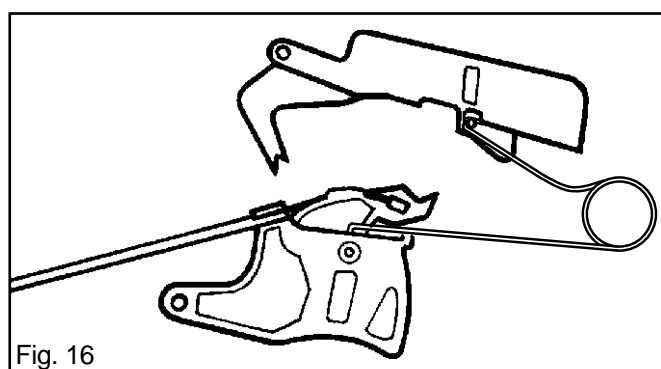

Fig. 16
3. Locate the spring in the recess in the throttle lock. Hold the spring in place and locate the throttle lock in the recess in the hand grip. See fig. 16.
4. At the same time, arrange the throttle return spring as shown in fig. 16.